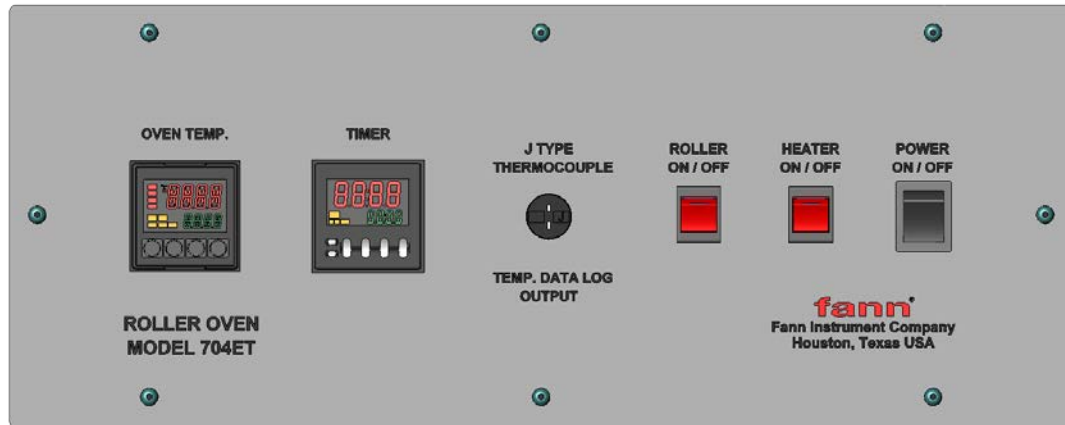
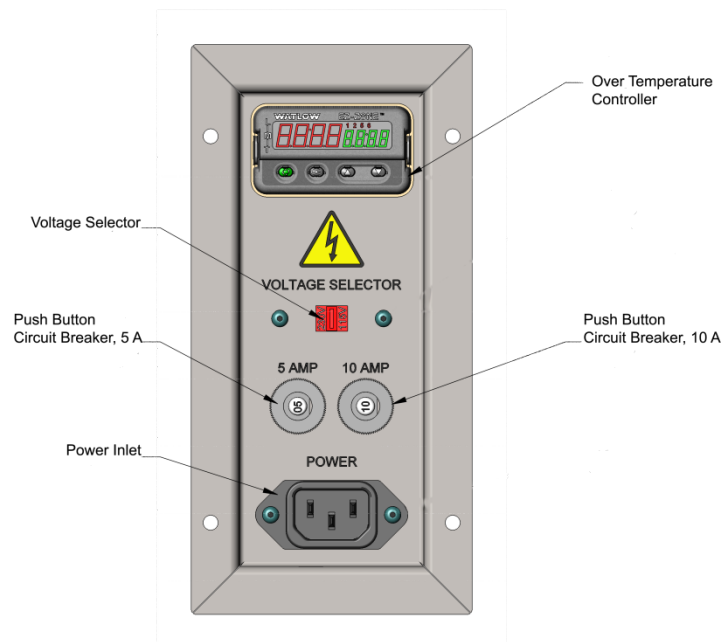

Figure 5-1 Front Control Panel
Figure 5-2 Rear Control Panel
Model 704ET and Model 705ET roller ovens are commonly used in drilling fluid aging tests at static, dynamic, ambient, or heated conditions. The stainless steel ovens have power-driven rollers and a digital electronic temperature controller. An internal circulation fan assures uniform temperature distribution throughout the oven. See Figure 5-1, a picture of the Model 704ET Roller Oven.
Refer to Figure 5-1 and Figure 5-2.
2. Make sure the voltage selector switch (Figure 5-2) is set to the correct voltage based on the available power. The options are 115V and 230V AC.